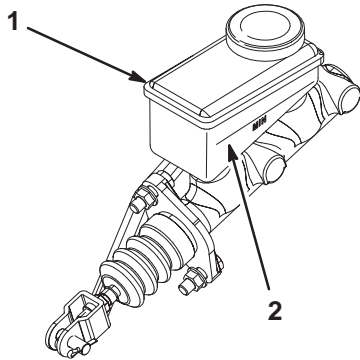

Figure 24
2. Look at the side of the reservoir. The level should be above the Minimum line (Fig. 24). If the fluid level is low, clean the area around the cap, remove the cap, and fill the reservoir to above the Minimum line. **Do not overfill.**